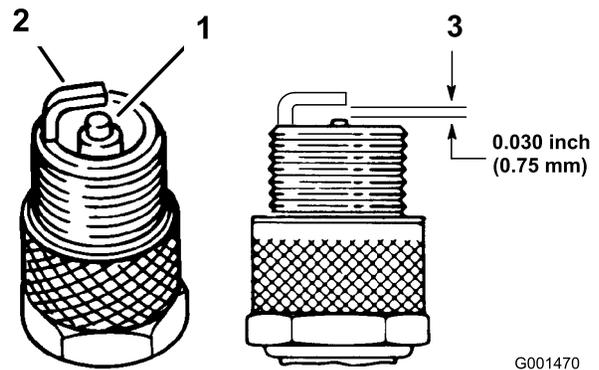

Figure 33
4. Check the condition of the side electrode, center electrode, and center electrode insulator to ensure that there is no damage (Figure 33).
5. Set the air gap between the center and side of the electrodes at 0.762 mm (0.030 inch) (Figure 33).